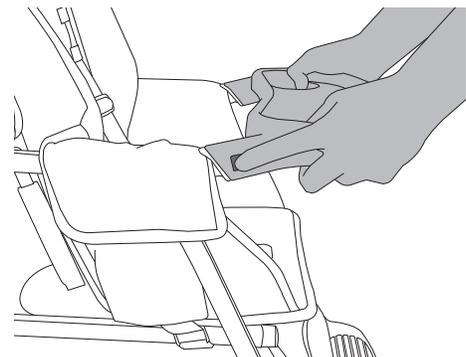

Figure 11
- To remove the front tray, press the lock button on the side of each of the male fittings while pulling outward on the tray. See Figure 11.